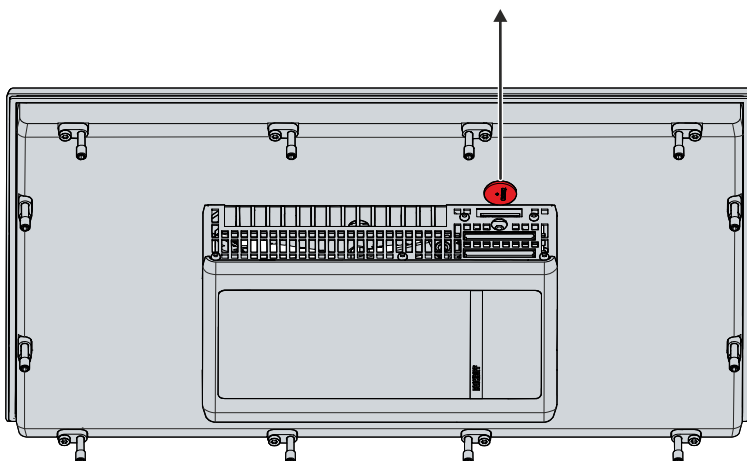

Fig. 27: CP27xx_replacing the battery
1. Pull the battery out of the panel PC with needle-nose pliers (see Fig. 27).